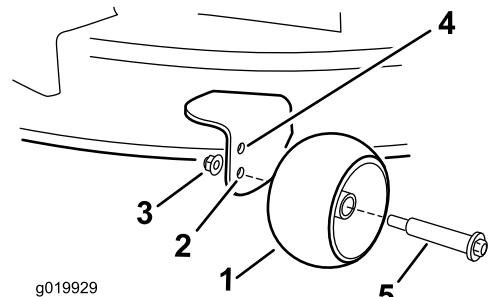

Figure 17
- Upper hole—use this position with the mower deck in the 63 mm (2-1/2 inches) and below the height-of-cut positions (Figure 17).
- Lower hole—use this position with the mower deck in the 76 mm (3 inches) and above the height-of-cut positions (Figure 17).